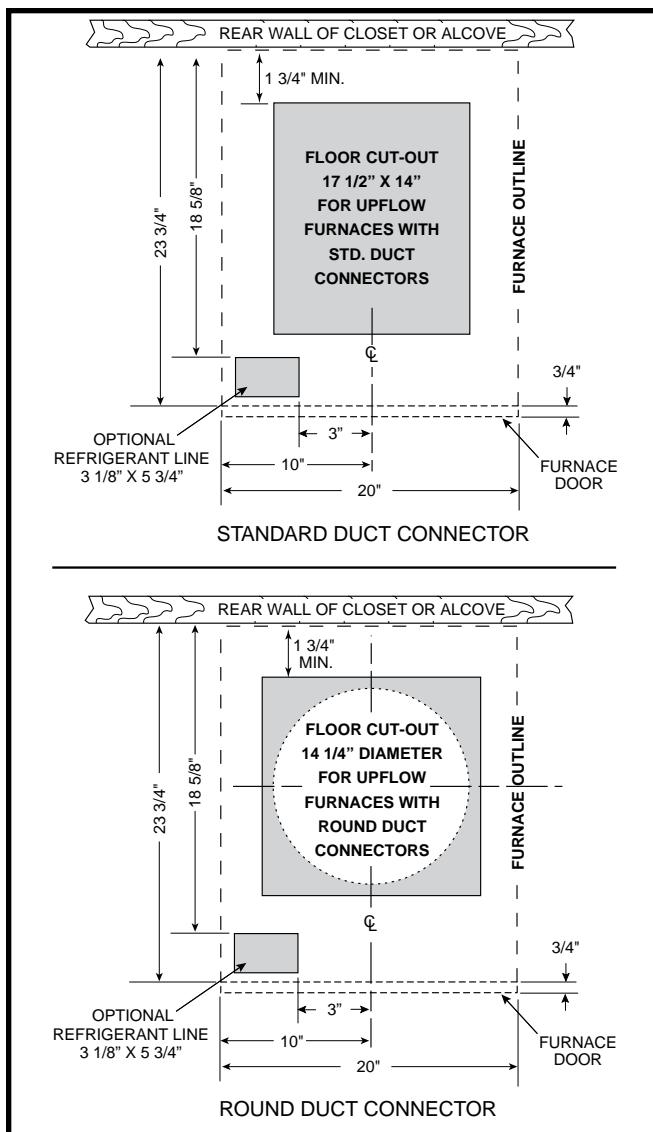
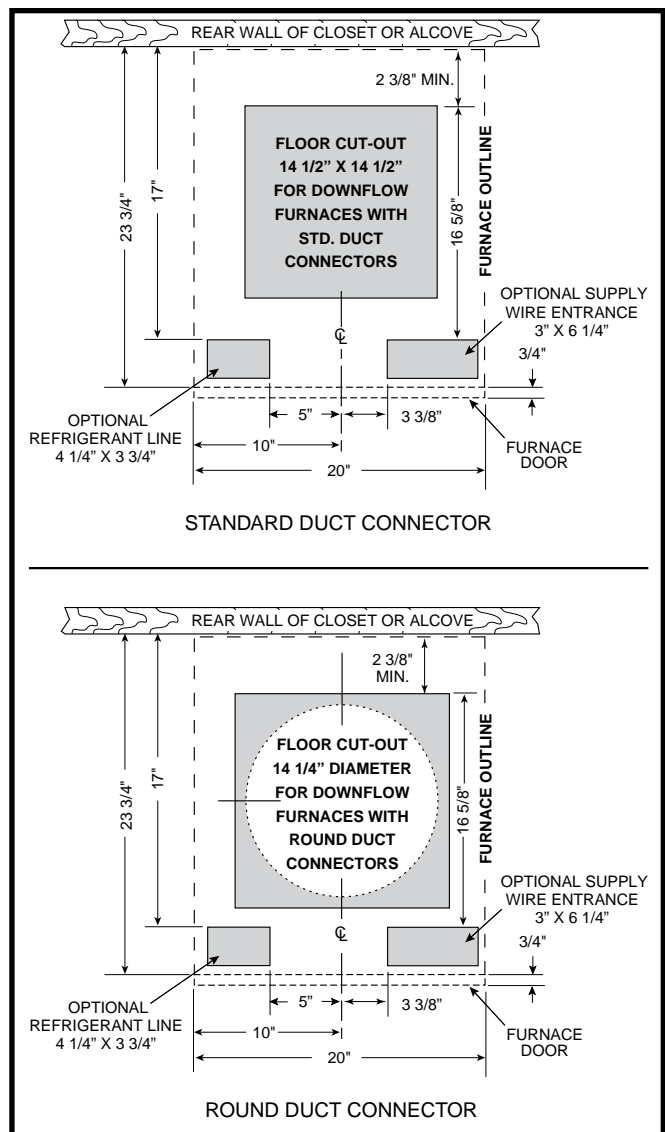

Figure 5. Cut-Out Dimensions for Upflow Furnaces
Figure 6. Cut-Out Dimensions for Downflow Furnaces
Floor cut-outs must be carefully located to avoid misalignment of the furnace and air duct. Standard and round cutouts for upflow furnaces are shown in Figure 5. Figure 6 displays the cutouts for downflow furnaces.
2. Using the centerline as a starting point, draw the rest of the duct cut-out to the dimensions shown in Figures 5 or 6. **NOTE:** Additional provisions may be necessary for optional air conditioning or heat pump if refrigerant lines are installed elsewhere than at the front of the furnace. The refrigerant and entrance supply opening dimensions may be adjusted $\pm 1/2$ ".